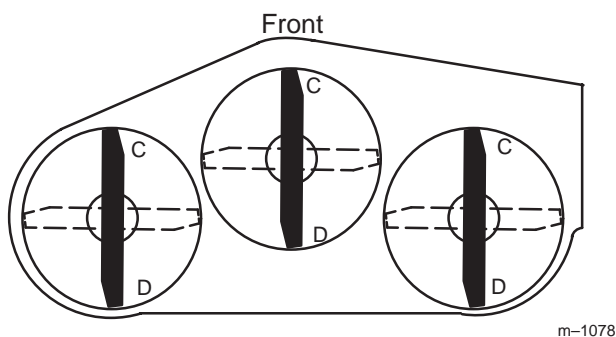
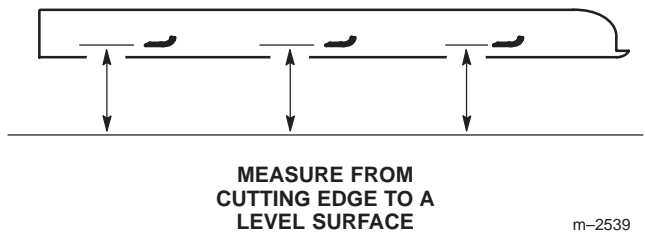

Figure 54
Figure 55
- Position one blade front-to-rear (Fig. 54). Measure at C and D locations (Fig. 54) from a level surface to the cutting edge of the blade tips (Fig. 55).
- Position the blades front-to-rear (Fig. 54). Measure at C and D locations (Fig. 54) from a level surface to the cutting edge of the blades (Fig. 55).